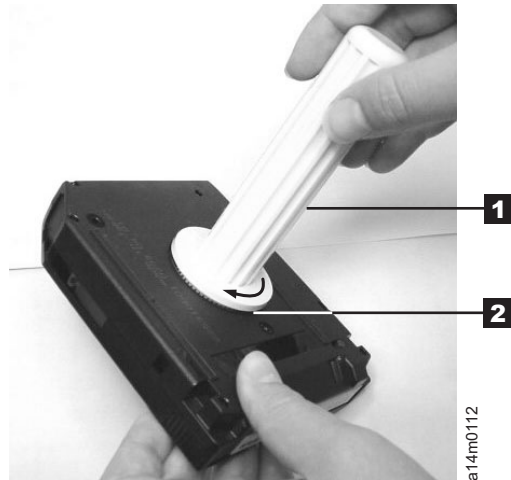

Figure 12. Rewinding the tape into the cartridge
5. To rewind the tape, insert the cartridge manual rewind tool (**1** in Figure 12 on page 30) into the cartridge's hub **2** and turn it clockwise until the tape becomes taut.